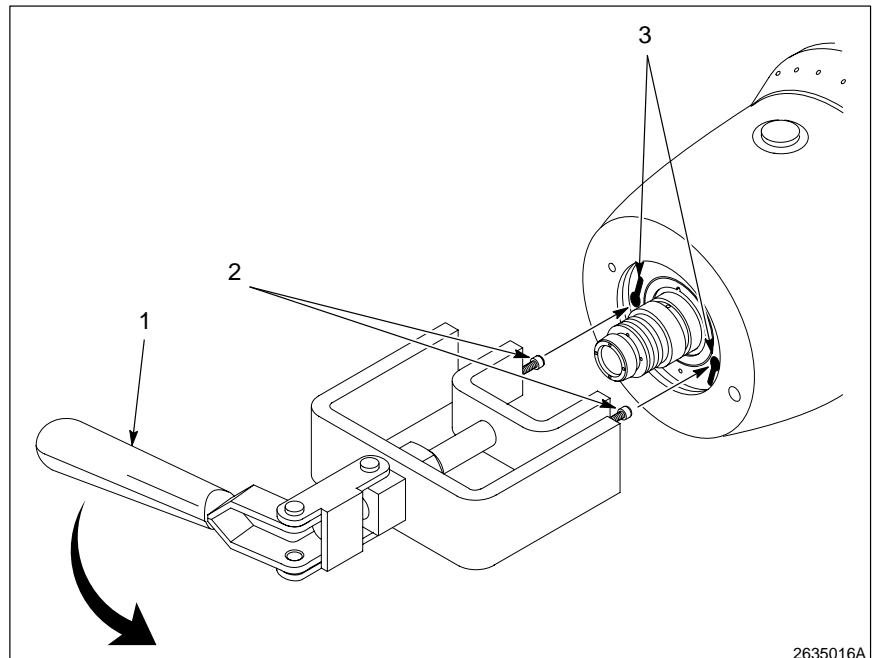

Fig. 7-7 Front Bearing Holder Removal
3. See Figure 7-7. Extend the puller tool (1) and align the heads of the 2 extended screws (2) with the 2 keyhole slots (3) in the front bearing holder.